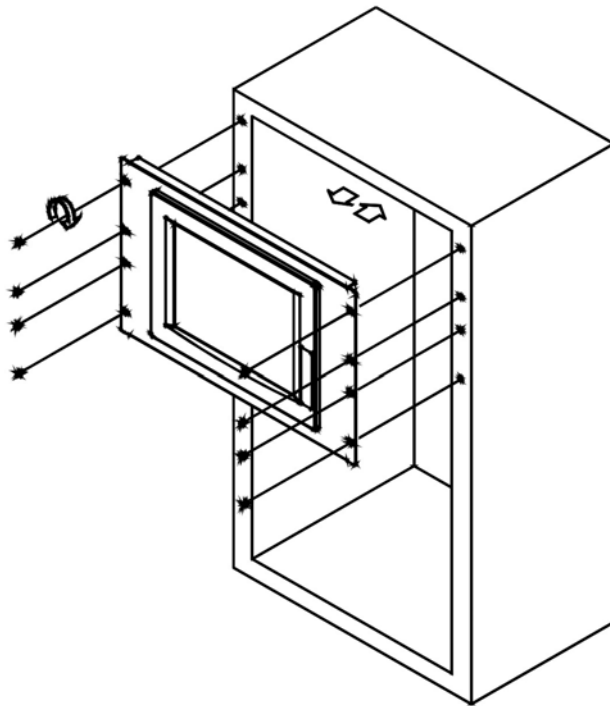

Figure 5-19: Install into a Cabinet/Rack
Step 5: Slide the monitor with the attached cabinet/rack bracket into a rack or cabinet (Figure 5-19).
Step 6: Once the monitor with the attached cabinet/rack has been properly inserted into the rack or cabinet, secure the front of the rack/cabinet bracket to the front of the rack or cabinet (**Figure 5-19**).